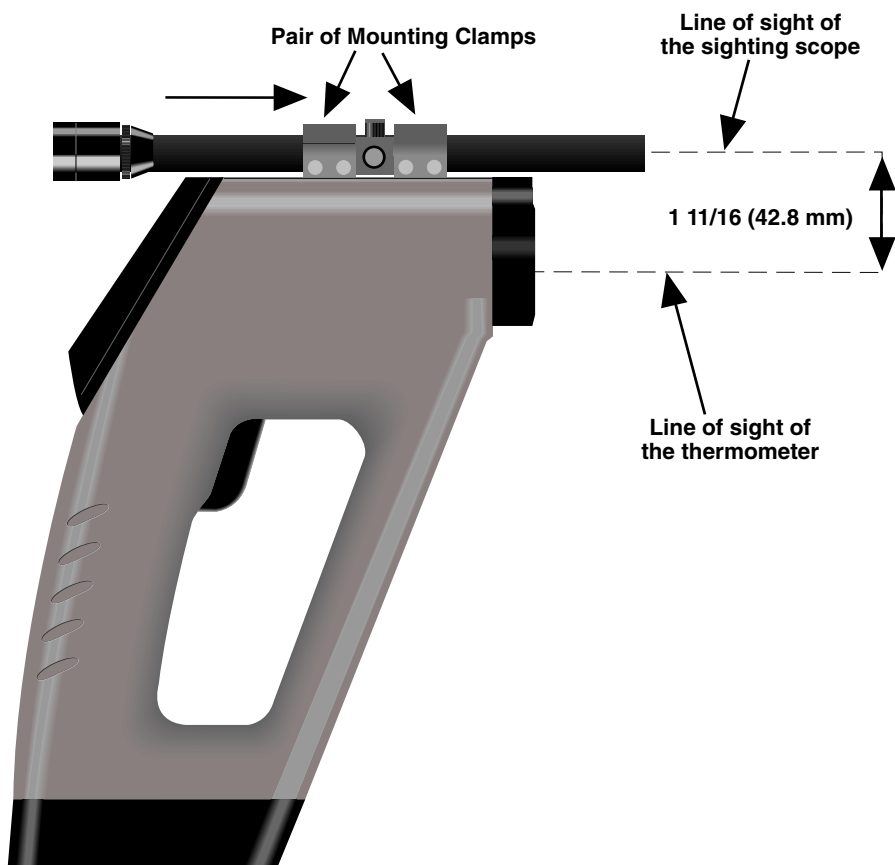

Figure 4-1. Installing the Sighting Scope
3. Slide the pair of mounting clamps over the "V" groove of the thermometer from back to front as shown in FIG 4-1. DO NOT remove the protective label from the laser sight power contacts.
Since the sighting scope mounts on top of the thermometer, the line of sight of the thermometer does not coincide with that of the sighting scope, as shown in Fig. 4-1. The distance between the two lines of sight ($1\frac{1}{8}$ ") becomes less critical compared to the target size when measuring distant targets (50 feet and longer).